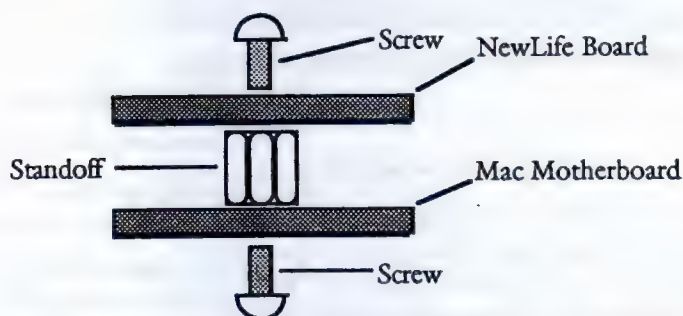

Figure 6: Standoff installation - edge view
7. Attach the Macintosh motherboard to the standoffs. See figure 6. **Note:** only two of the standoffs attach to the motherboard.